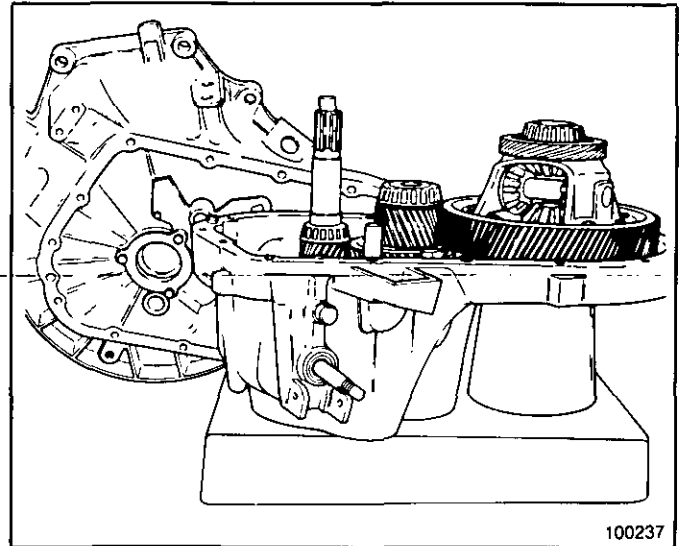

Figure 8 Clutch Cover Removed
2. Remove the (15) bolts securing the clutch cover to the transaxle case.
3. Use a plastic hammer to carefully tap the clutch cover from the transaxle case shown in Figure 8. Anaerobic sealant is used between the case and cover, instead of a gasket.